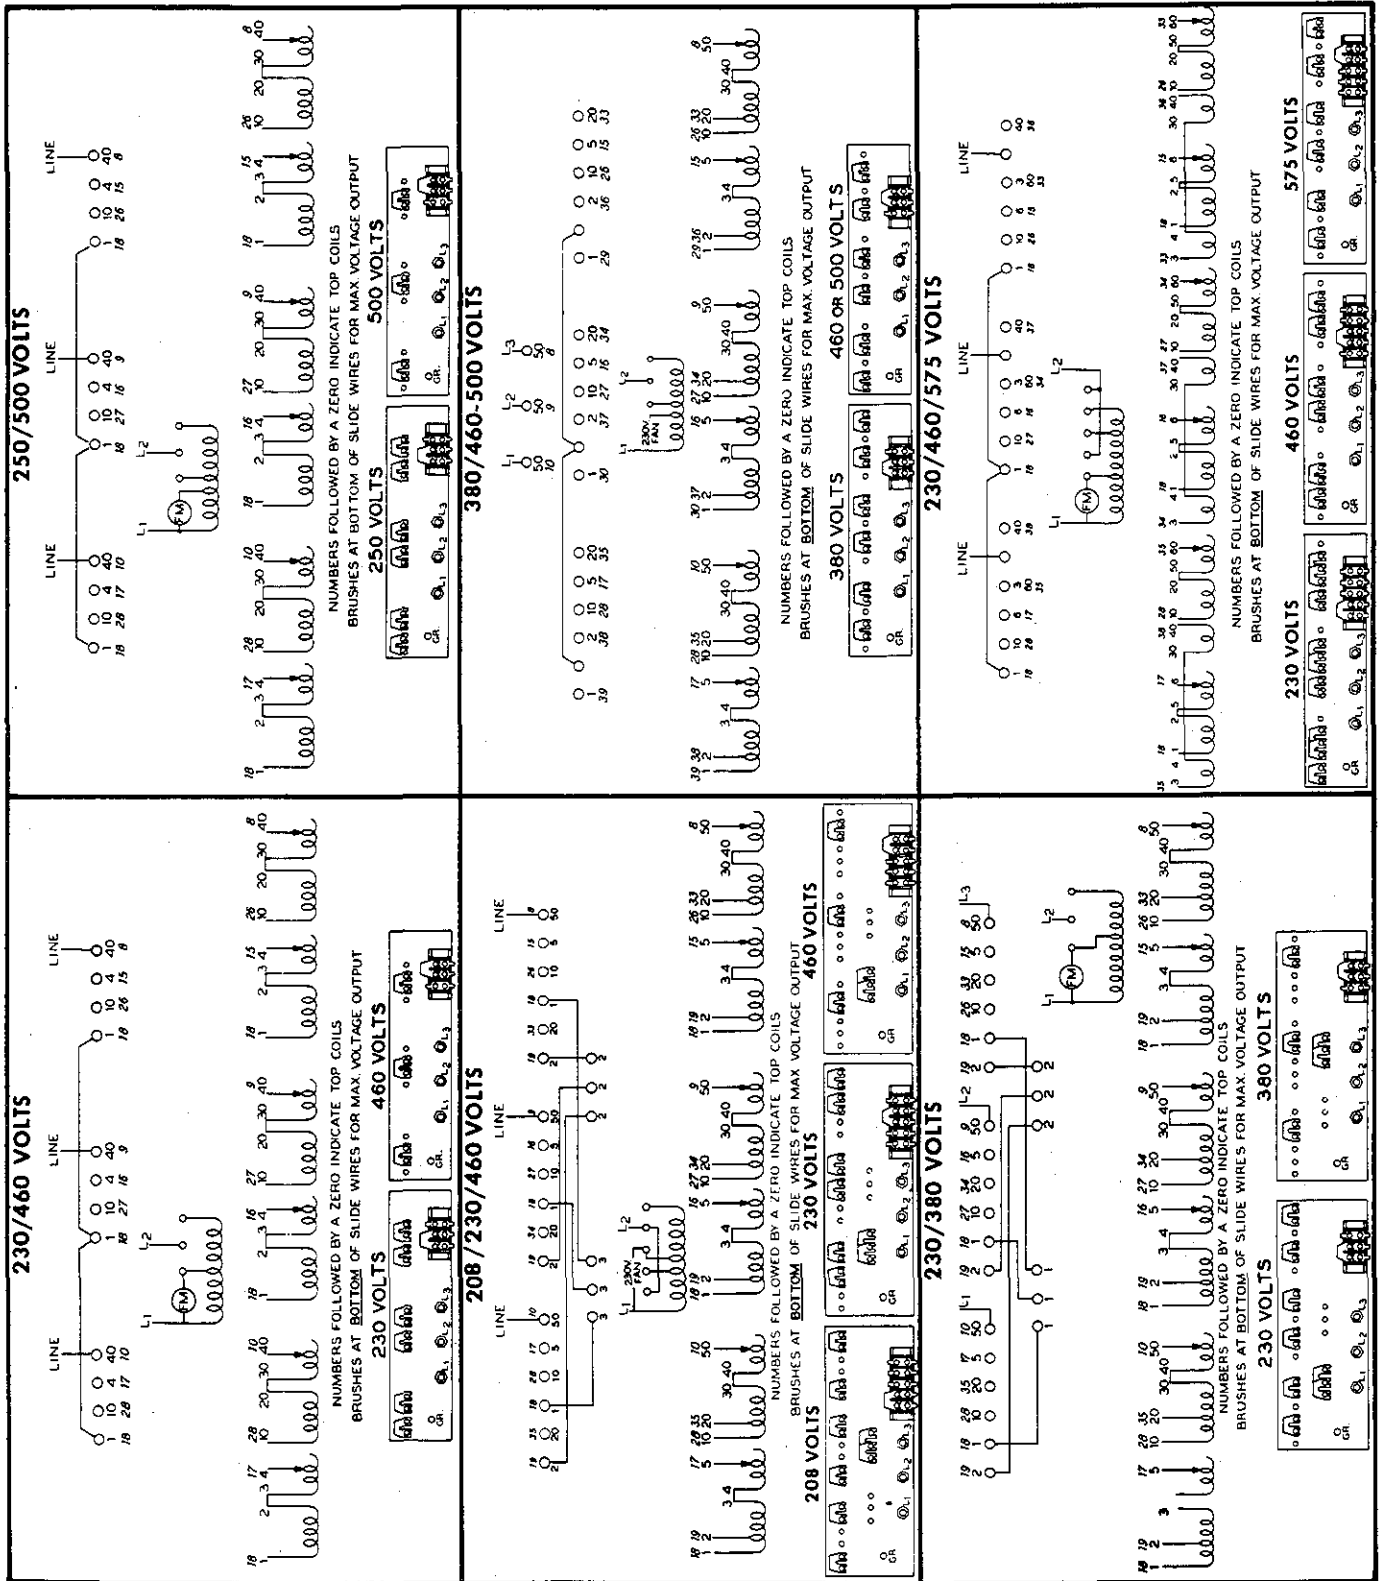

Figure 3 -- Primary Voltage Link Arrangement
- D. The welding machine is designed to operate on either 230 or 460 volts, three phase, 60 cycle ac power line. Facilities for operation on other primary voltage, if ordered, are incorporated at the factory. To connect the welding machine properly for the voltage available, position the copper links as illustrated in Figure 5 and on the Primary Voltage Link Arrangement, Figure 3. This welding machine is shipped with the connections in the highest line voltage position for which the particular machine was built, unless otherwise ordered.